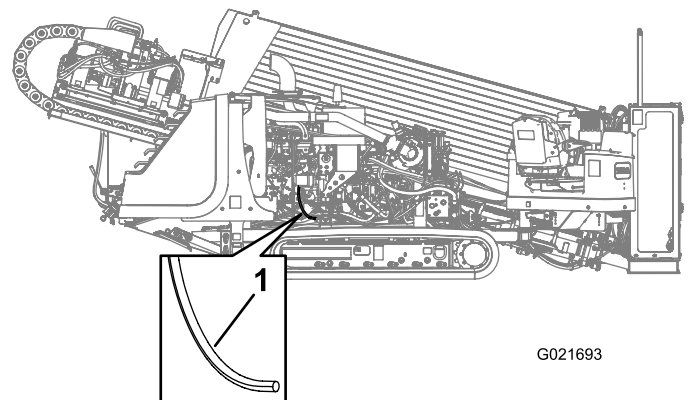

Figure 112
3. Gently pull the crankcase-vent tube out (Figure 112).
4. Clean the end of the crankcase-vent tube (Figure 112).